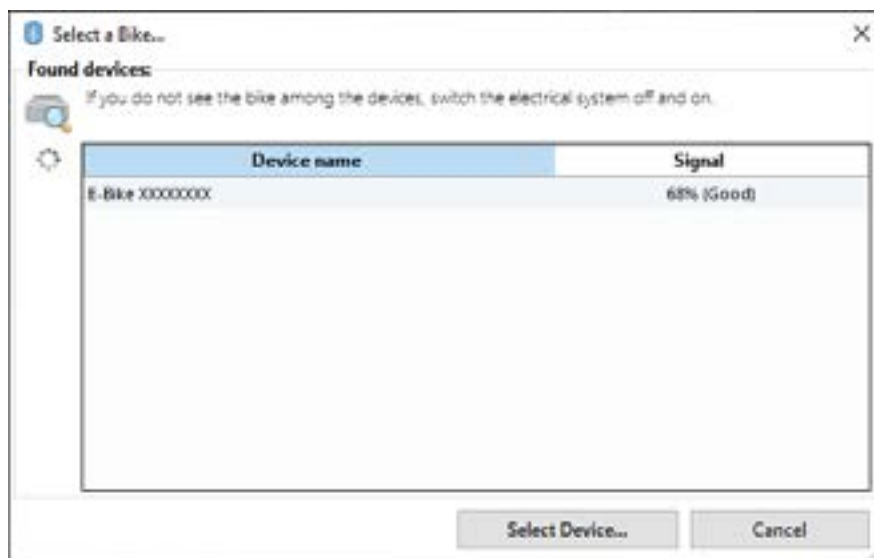

Figure 3.6 Selecting the e-bike
- 4 Select the e-bike you want to connect to from the list (using the frame number) and then press “Select Device” (Fig. 3.6)